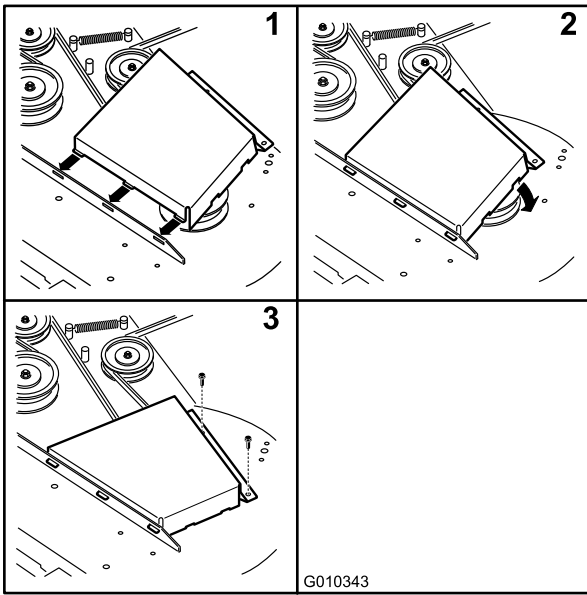

Figure 70
12. Install the belt covers (Figure 70).